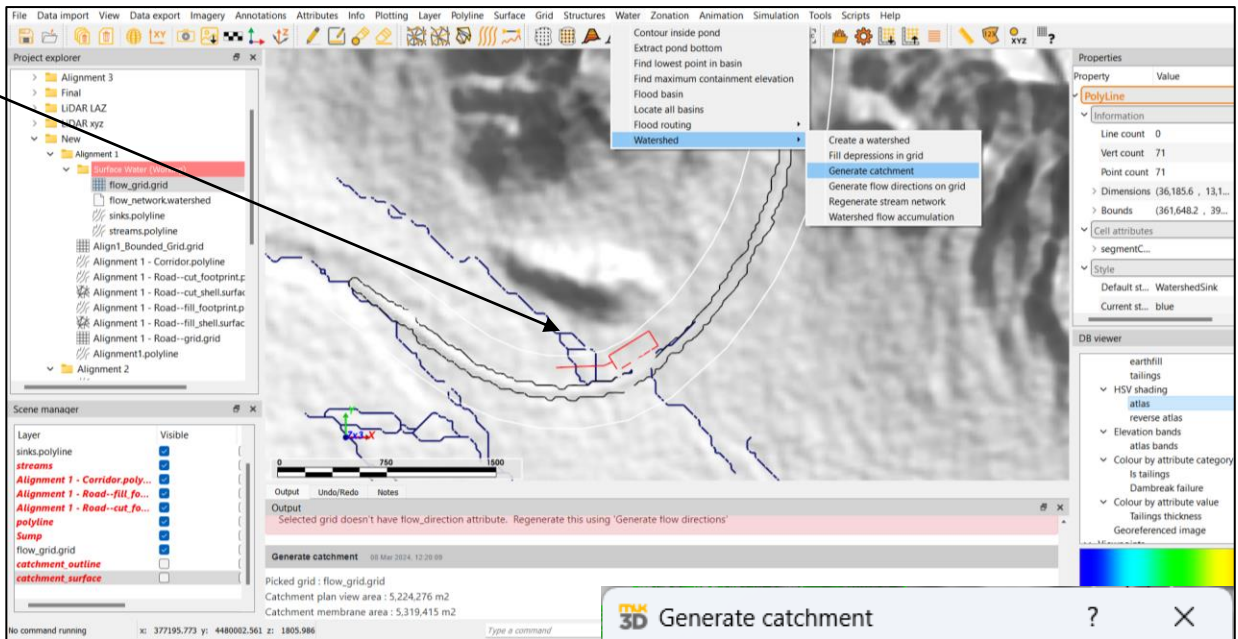

Figure 45: Generate catchment area
In this case, we'll assume a 24h hour rain event producing **30mm** of precipitation. To determine the catchment area go to **Water > Watershed > Generate catchment** (figure 45). Make sure your **flow_grid** and **streams** objects are loaded:
2. It will then ask you to select a point. Select a point exactly on the stream of concern (figure 45).
The sump crest line can be seen in figures 45 and 46 above. The sump's base elevation will be offset relative to the sump's crest elevation and we want a sump with a consistent base elevation to maximize containment. As a result, we need to set a consistent elevation on the crest line.